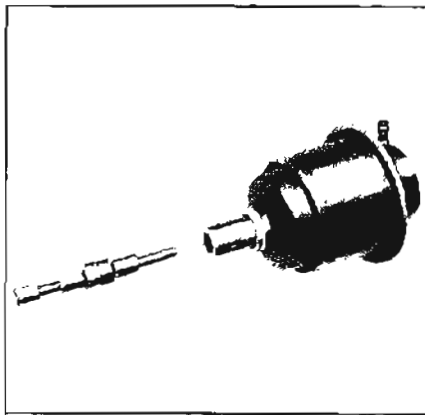

Figure 5-670
1. Inspect the modulator assembly for any signs of bending or distortion. See Figure 5-670.